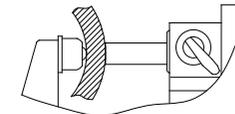

fig.4
- Install spherical anvil on the anvil, the micrometer can measure tube thickness (fig.4).